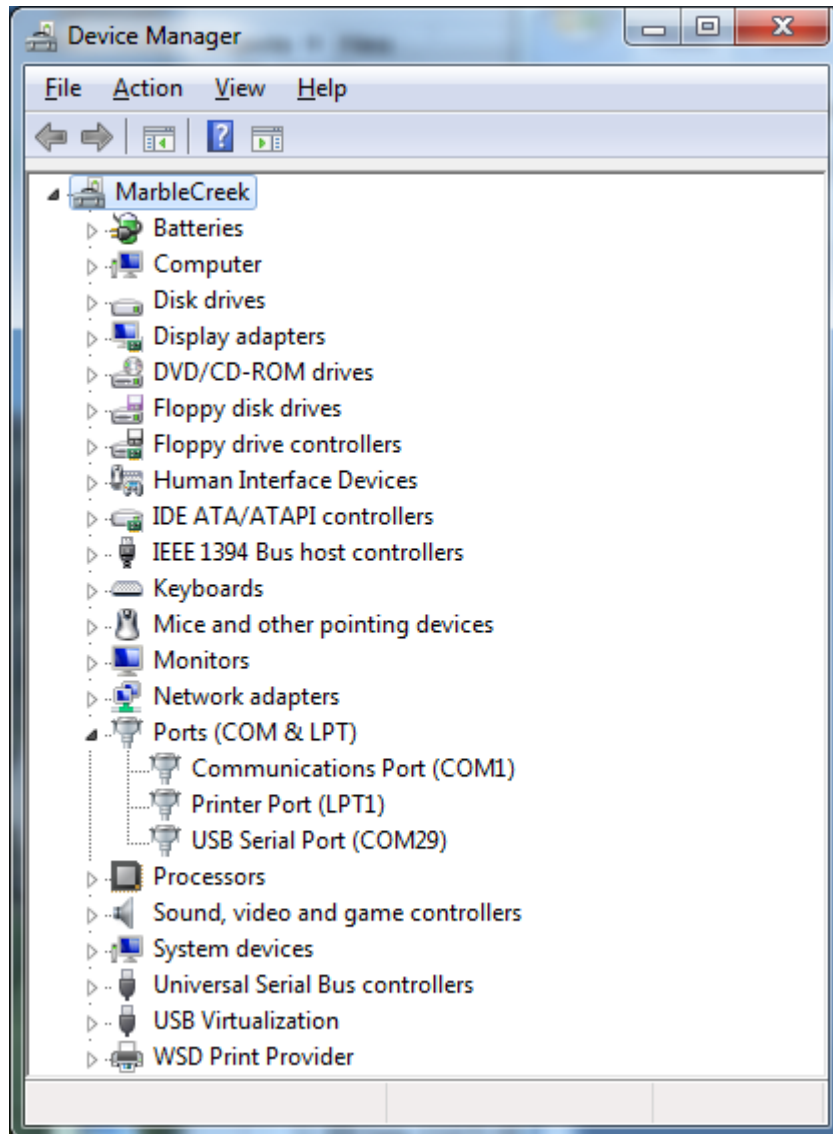

Figure 8.2. PC device manager window.
- Expand the tab called Ports (COM & LPT) as shown in Fig. 8.2.